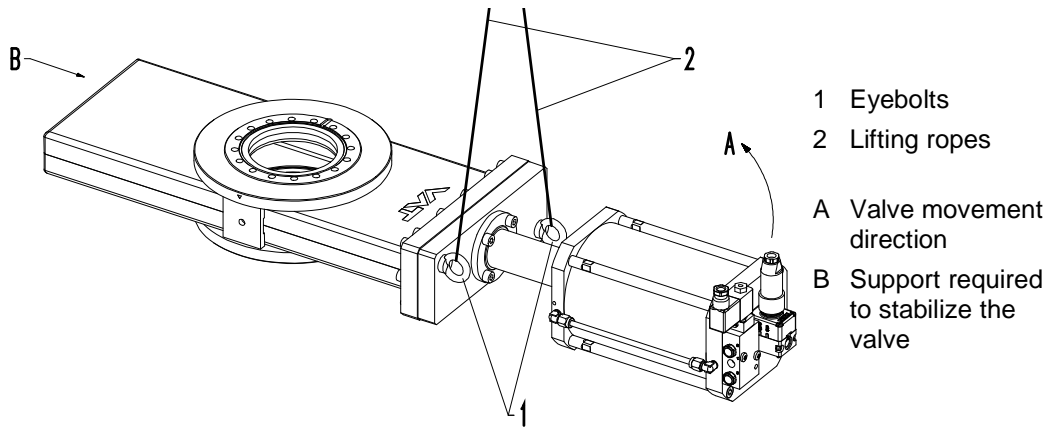

Figure 4-1
Open the plastic bag protecting the valve only at the points where you need access to the eyebolts (1) for fastening the crane hooks; see «Figure 4-1» on page 10. Keep valve in the plastic bag until it is being installed into the system.
<p>Wrong lifting Valve may crash and get damaged. Use only the eyebolts shown in the dimensional drawing and in «Figure 4-1» on page 10 to lift the valve. Using any other components (e. g. position indicators, solenoid valves) to lift the valve is strictly forbidden.</p>
Use a crane for lifting valve DN100 and higher out of the transport box; see «Figure 4-1».